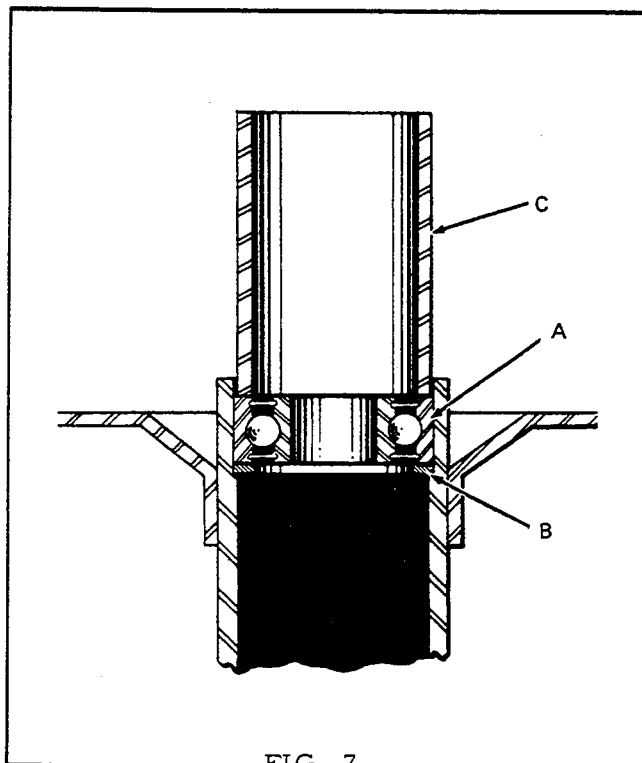

FIG. 7
1. Install the upper bearing "A" so that the green face of the bearing is toward the backing ring "B" in the tube assembly. Use a tube "C" or sleeve to press against the outer race of bearing and press the bearing firmly against the backing ring. (Refer to Fig. 7).